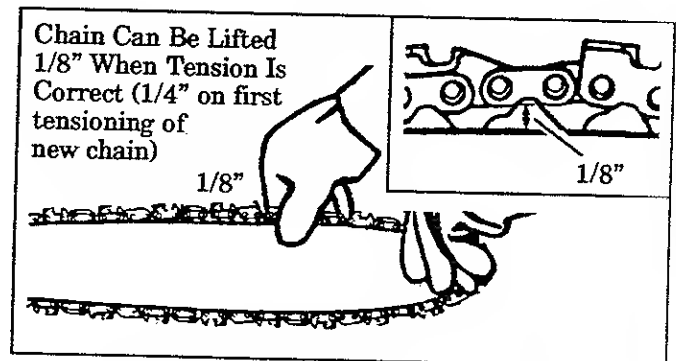

Figure 9
2. Check the tension by lifting the chain from the guide bar at the center of the bar. Figure 9.
5. Recheck chain tension. Figure 9.